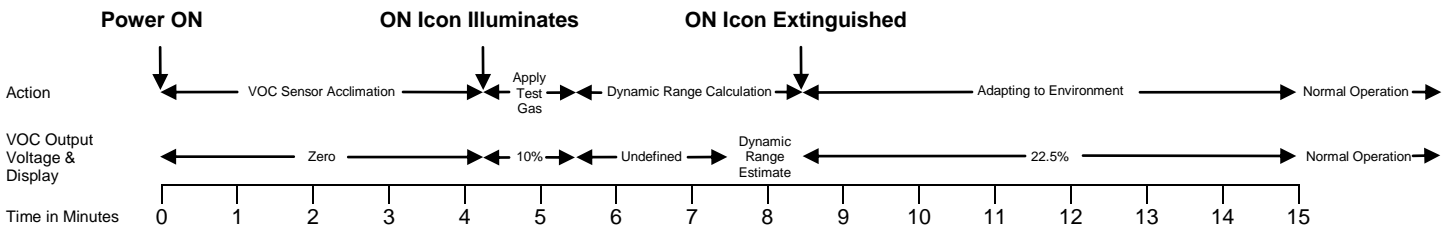

Figure 19: Sensor Start-up Timeline
At each power up, the sensor enters the start-up period for 15 minutes. The main display will show the current temperature and the minor display will show 123 for the first 15 seconds. The VOC output and display will follow the timing shown in figure 19. Start-up time for the humidity output is 30 seconds, while the outputs for temperature and temperature setpoint are available immediately.
- A. Remove sensor power for at least one minute and reapply. The VOC sensor will set the VOC output to zero volts. Display models will indicate 0.0 on the main display and CMS, short for commissioning, on the minor display. (Power ON in figure 19)
- D. The visual indication and the 5% output voltage confirms that the VOC sensor is in its verification/commissioning test. (Apply Test Gas period in figure 19)
- B. Read and record the VOC output voltage or Main LCD display approximately 2 to 4 minutes following the stimulus gas application to determine the dynamic range measurement. (Dynamic Range Estimate period in figure 19)